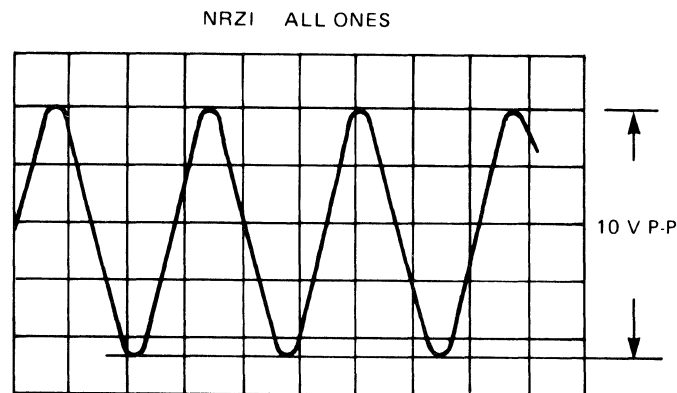

Figure 5-4. Amplifier Waveforms, NRZI All Ones (TP101)
- f. Read during write and adjust potentiometer R117 until the analog signal displayed on the oscilloscope is 10 volts peak-to-peak (figure 5-4).